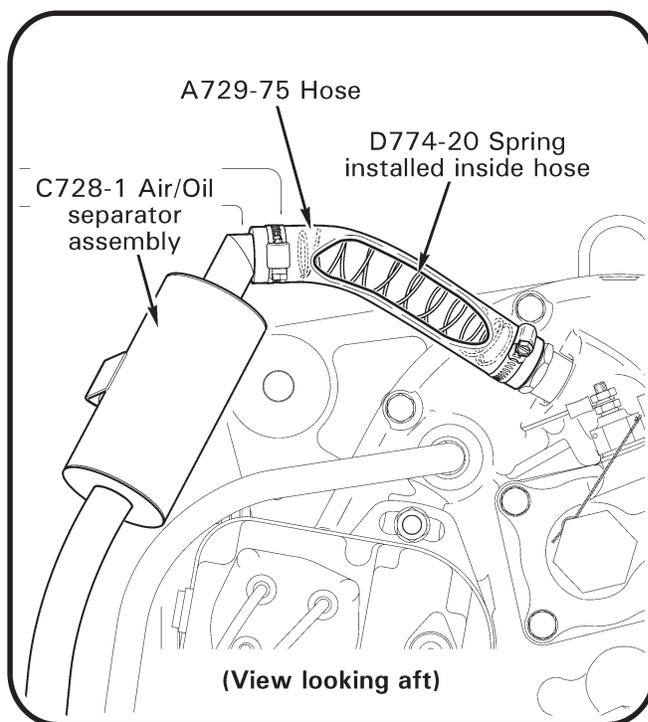

FIGURE 2
1. Refer to Figure 2. For each affected helicopter, order one D774-20 spring and one A729-75 crankcase breather hose from RHC Customer Service.